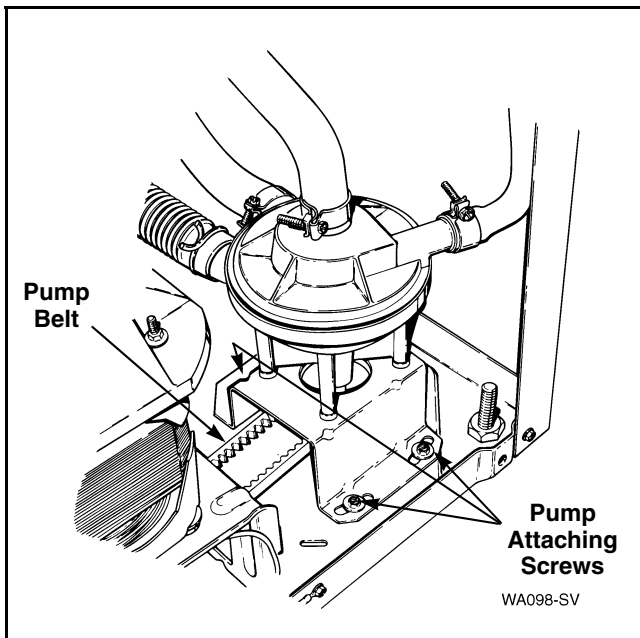

Figure 46
- Loosen the two front mounting screws, then loosen the rear screw. Refer to *Figure 46*.